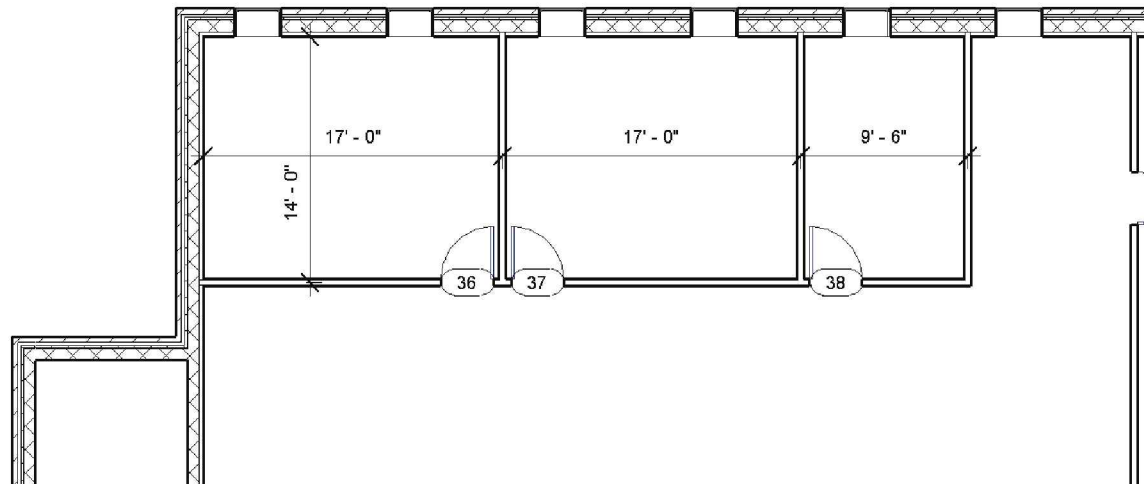

FIGURE 4-2.2 Level 3 - Added walls
- Similar to step 1, add the walls and doors shown in Figure 4-2.2 to **Level 3**.
- Use the *Mirror* command to mirror the walls in Figure 4-2.2 to the other three corners of Level 3.